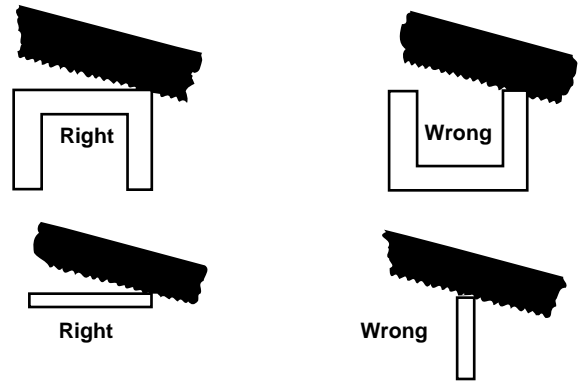

Figure 2 – Work Properly Positioned For Sawing
- Be sure work to be cut is held securely and is properly positioned so that greatest number of teeth will contact work when cutting. (Figure 2)